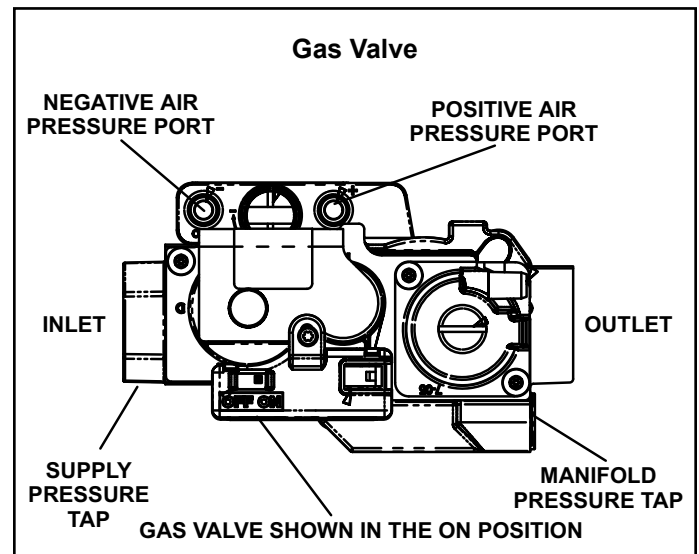

Figure 4
6. Move the switch on the gas valve to **OFF**. Do not force the switch. See Figure 4.